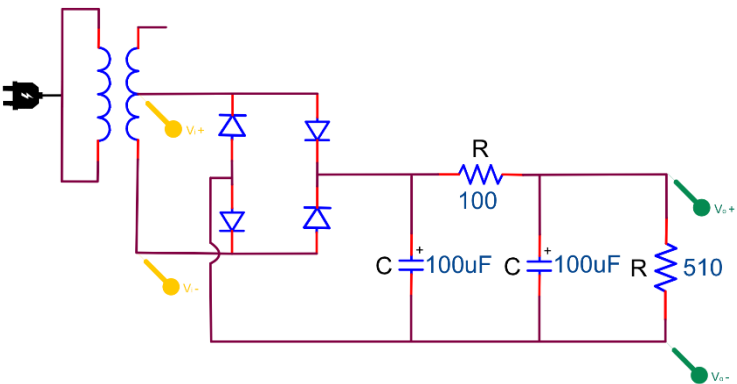

Figure 4.13
9. Construct Figure 4.13 and use the oscilloscope to measure the percent ripple across each of the capacitors.
- d. Figure 4.13